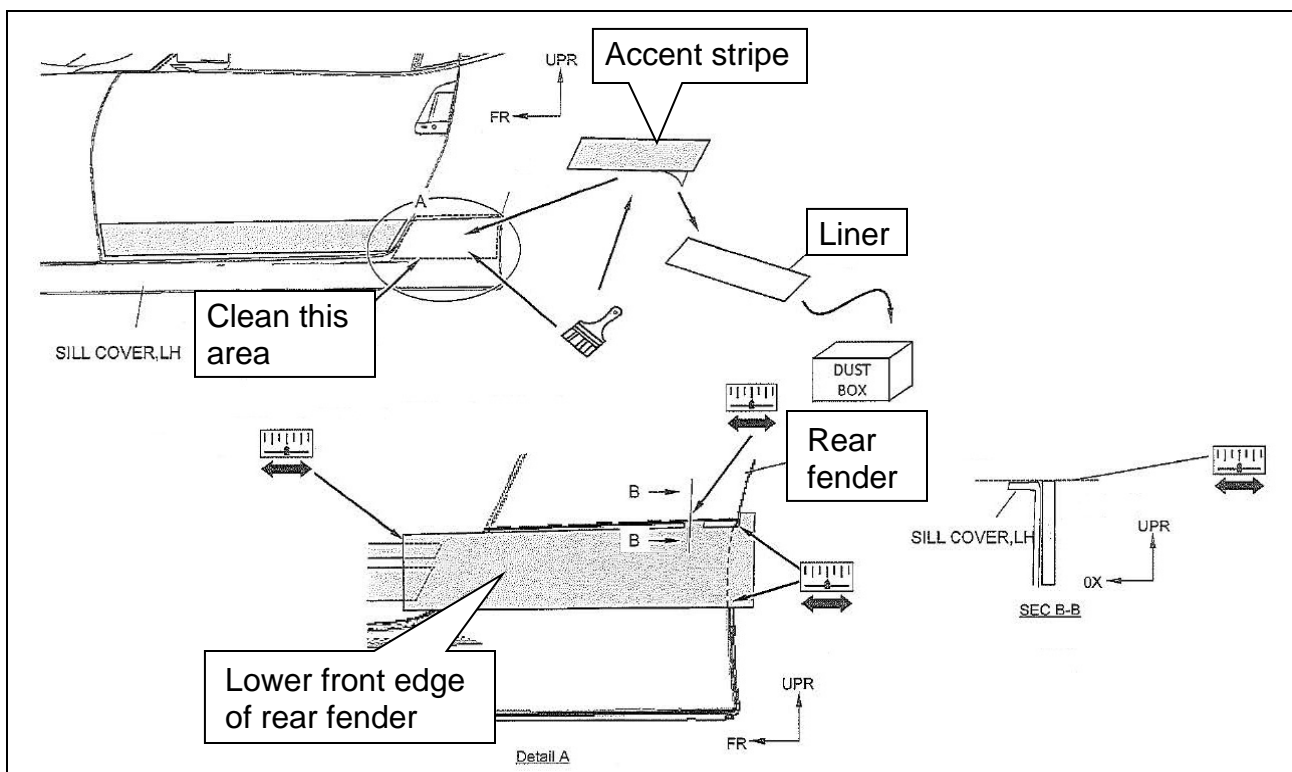

Figure 25
2. Review Figure 25 for the location that the rear fender accent stripe will be applied.
6. Set the rear fender accent stripe on the rear fender and align as shown in Figure 25.